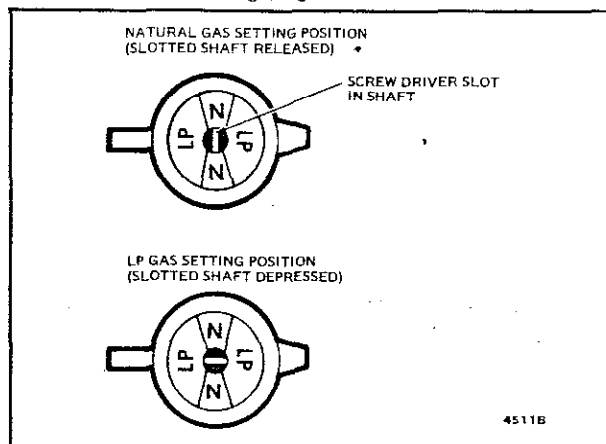

Fig. 6—Natural-LP gas settings, V5309 Changeover Regulator.
The natural and LP gas settings are selected by positioning the slotted shaft as shown in Fig. 6.
- With a small screwdriver, depress and rotate the shaft so the slot is in line with LP stamped on the bushing (Fig. 6).
- With a small screwdriver, rotate the shaft so the slot is in line with N stamped on the bushing (Fig. 6).